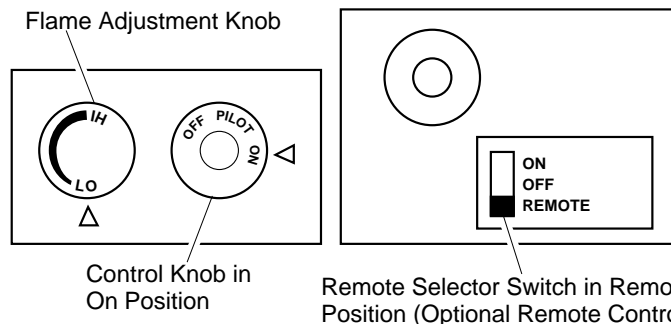

Figure 34 - Setting the Remote Selector Switch, Control Knob, and Flame Adjustment Knob for Remote Operation
1. After lighting, let pilot flame burn for about one minute. Turn control knob to ON position. Adjust flame adjustment knob anywhere between HI and LO. Slide the remote selector switch to the REMOTE position (see Figure 34). **Note:** The burners may light if hand-held remote ON button was on when remote selector switch was last turned off. You can now turn the burners on and off with the hand-held remote control unit. **IMPORTANT:** Do not leave the remote selector switch in the REMOTE position when the pilot is not lit. This will drain the battery. **IMPORTANT:** Be sure to press the ON/OFF buttons on the hand-held remote control unit for up to 3 seconds to assure proper operation.